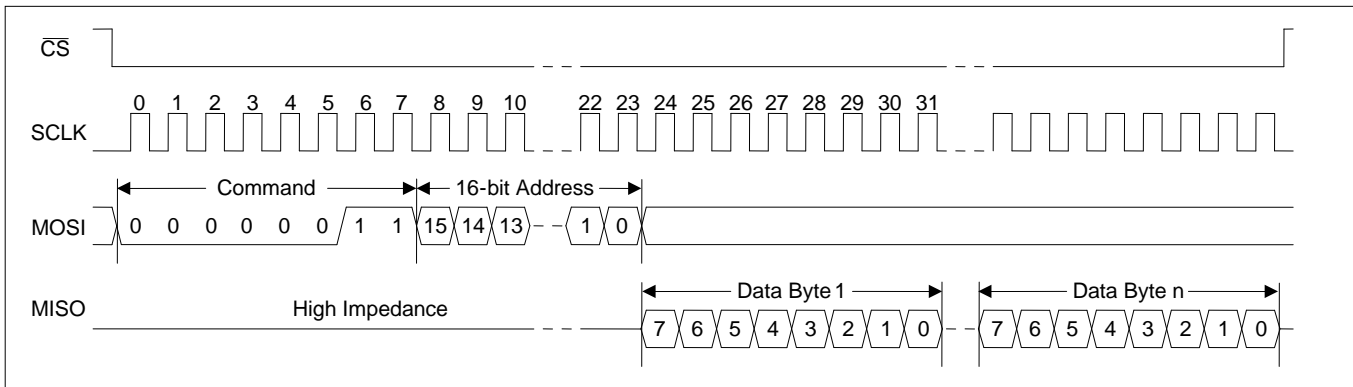

Figure 7 - SPI Read Transaction Functional Timing
**Read Transactions.** The device registers are accessible when **EESEL**=0. On a ZL30251 the internal EEPROM memory is accessible when **EESEL**=1. On a ZL30250 **EESEL** must be set to 0. After driving CSN low, the bus master transmits the read command followed by the 16-bit address. The device then responds with the requested data byte on MISO, increments its address counter, and prefetches the next data byte. If the bus master continues to demand data, the device continues to provide the data on MISO, increment its address counter, and prefetch the following byte. The read transaction is completed when the bus master drives CSN high. See Figure 7.
**Read Transactions.** After driving CSN low, the device transmits the read command followed by the 16-bit register address. The external EEPROM then responds with the requested data byte on MISO, increments its address counter, and prefetches the next data byte. If the device continues to demand data, the EEPROM continues to provide the data on MISO, increment its address counter, and prefetch the following byte. The read transaction is completed when the device drives CSN high. See Figure 7.